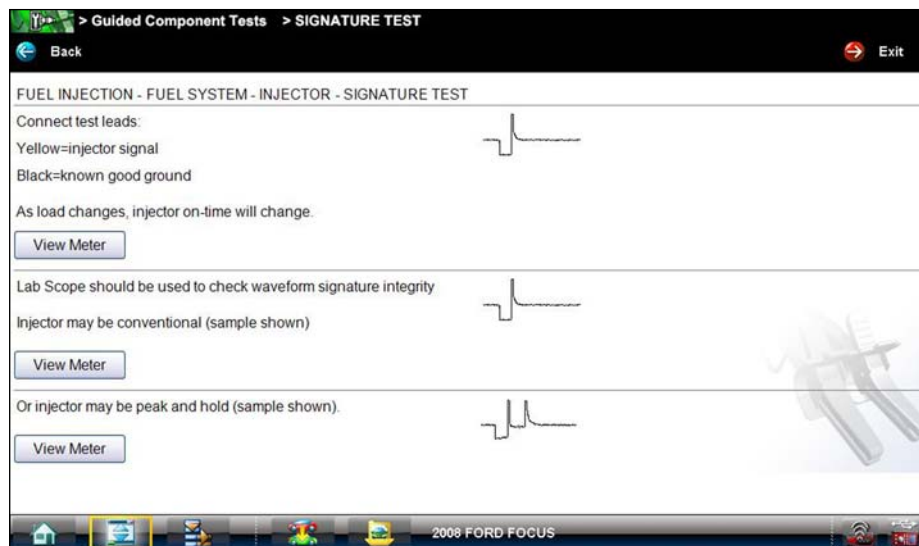

Figure 6-8 Sample Test screen
3. Select a test option and the test screen displays (Figure 6-8).